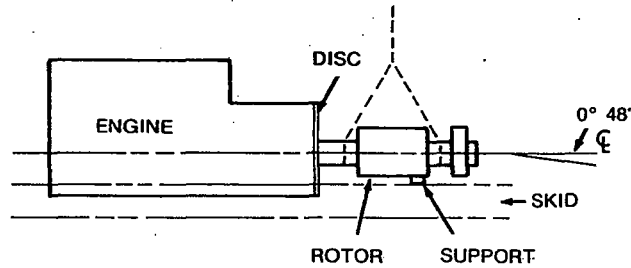

FIGURE 20. ROTOR REMOVAL
18. Install support under rotor when stator is clear of rotor, Figure 20.
1. Support rotor and attach drive disk to engine. See Figure 20. Torque bolts 120 to 200 lb ft (163 to 271 N•m).